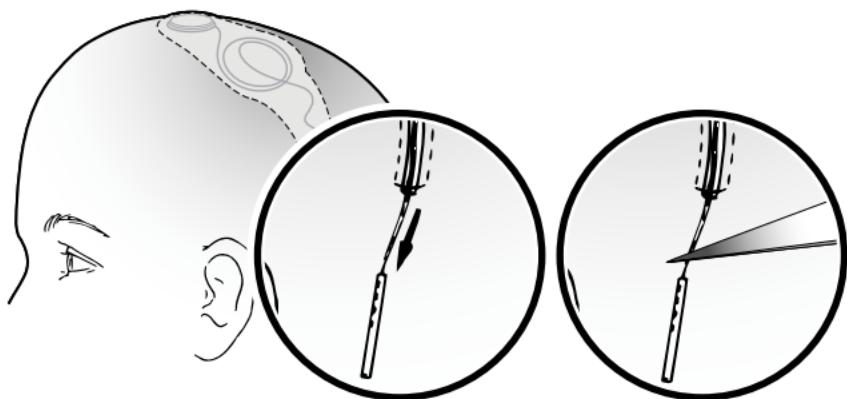

Figure 14. Withdraw the external segment of the percutaneous extension.
1. Withdraw the external segment of the percutaneous extension approximately 1 cm (0.4 in) from where it exits the skin (Figure 14).